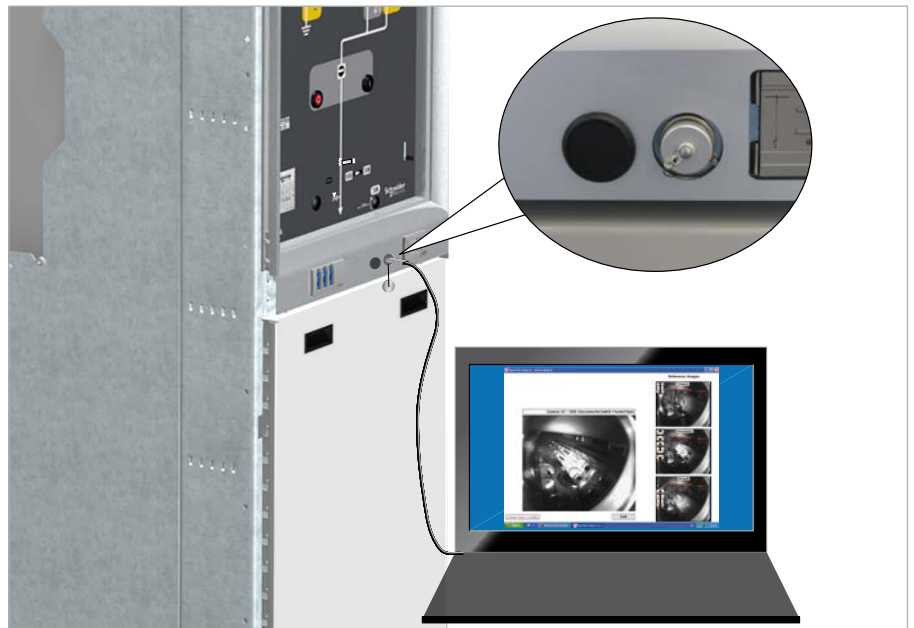

Fig. 2
2. Remove the cover of the USB view port A or B on the front of the switchgear panel (Fig. 2). For view port assignment, see chapter 4, page 19 and 20.
3. Connect the USB cable to the computer system (laptop) and to the view port (Fig. 2).